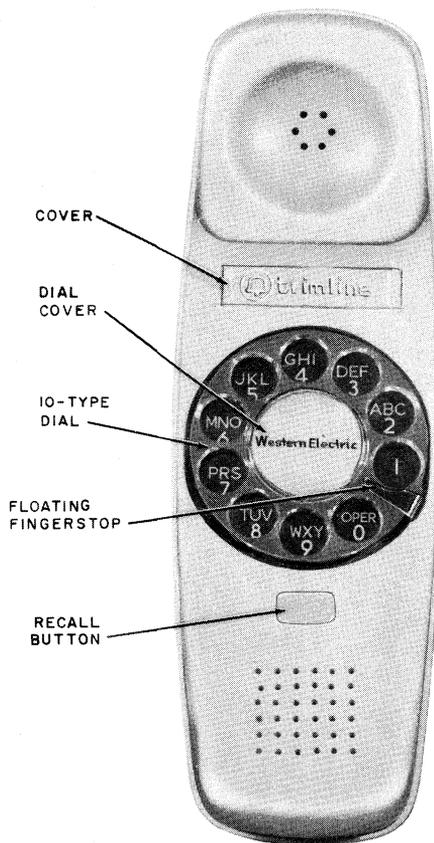

Fig. 1—220-Type Hand Telephone Set
1.01 This section contains information for the 220-, 226-, 2220-, and 2226-type hand telephone sets (Fig. 1, 2, and 3).
- Cover, Dial (Fig 1 and Table B)
- Cover (Fig. 1, 3 and Table B)
- ◆Amplifier, 315A (MD) (226A only)◆